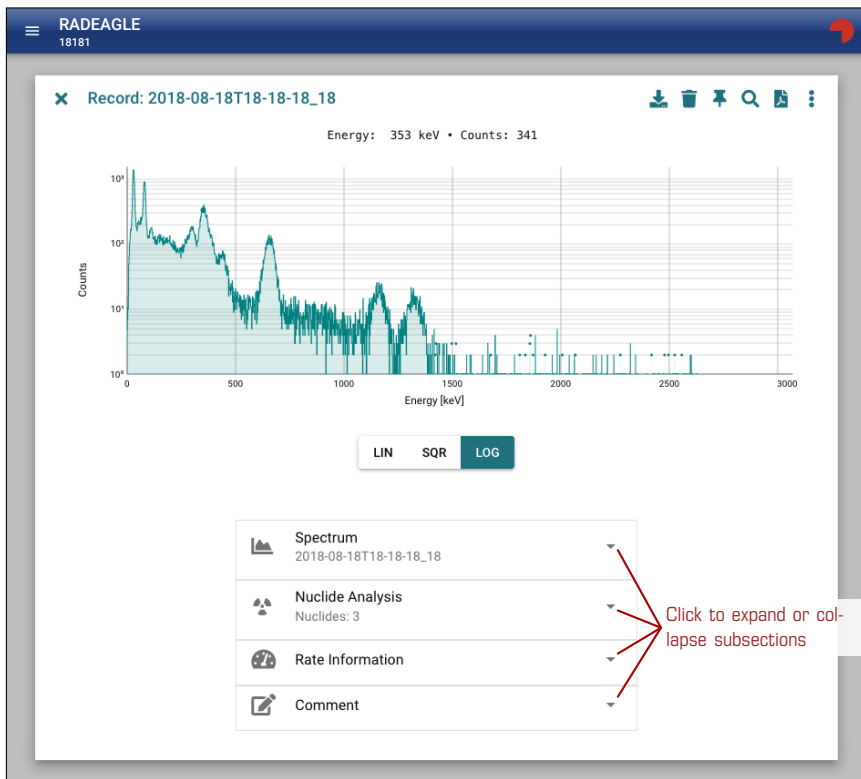
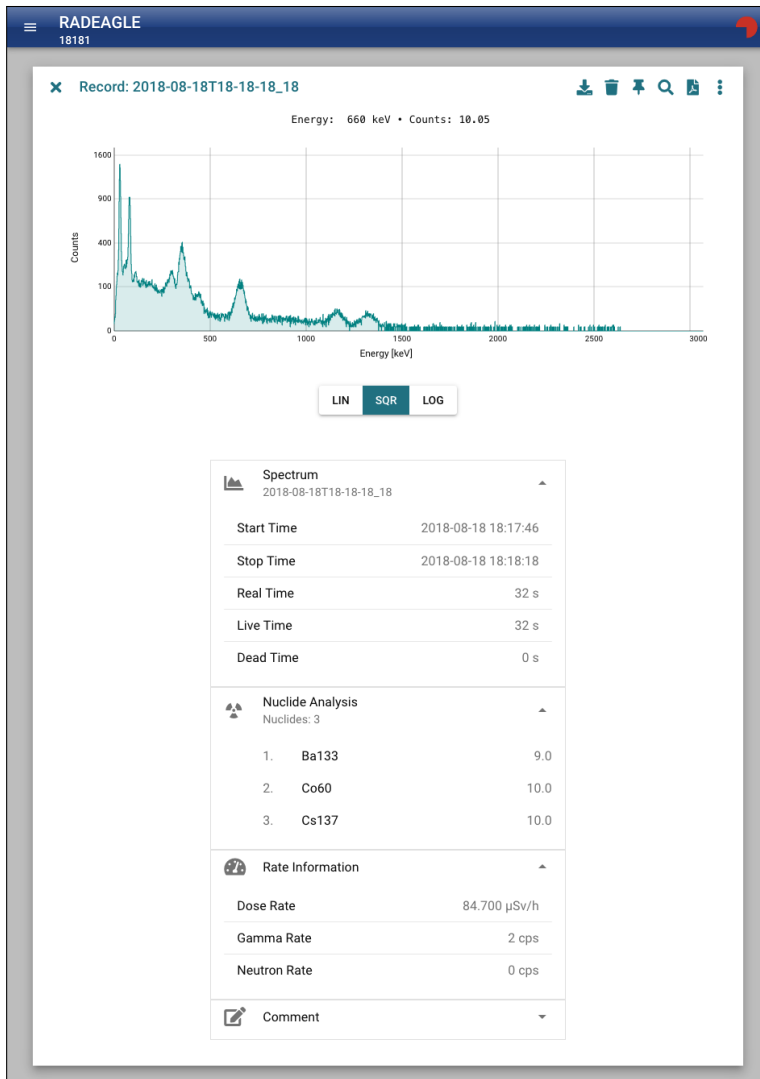

Figure 110: Spectrum with scaling methods and detail overview
Figure 111: Spectrum with expanded detail information
2. Click the triangles to expand or collapse subsections. (Fig. 110, p. 95, Fig. 111, p. 96).
The current scaling is accented below the diagram (Fig. 110, p. 95).